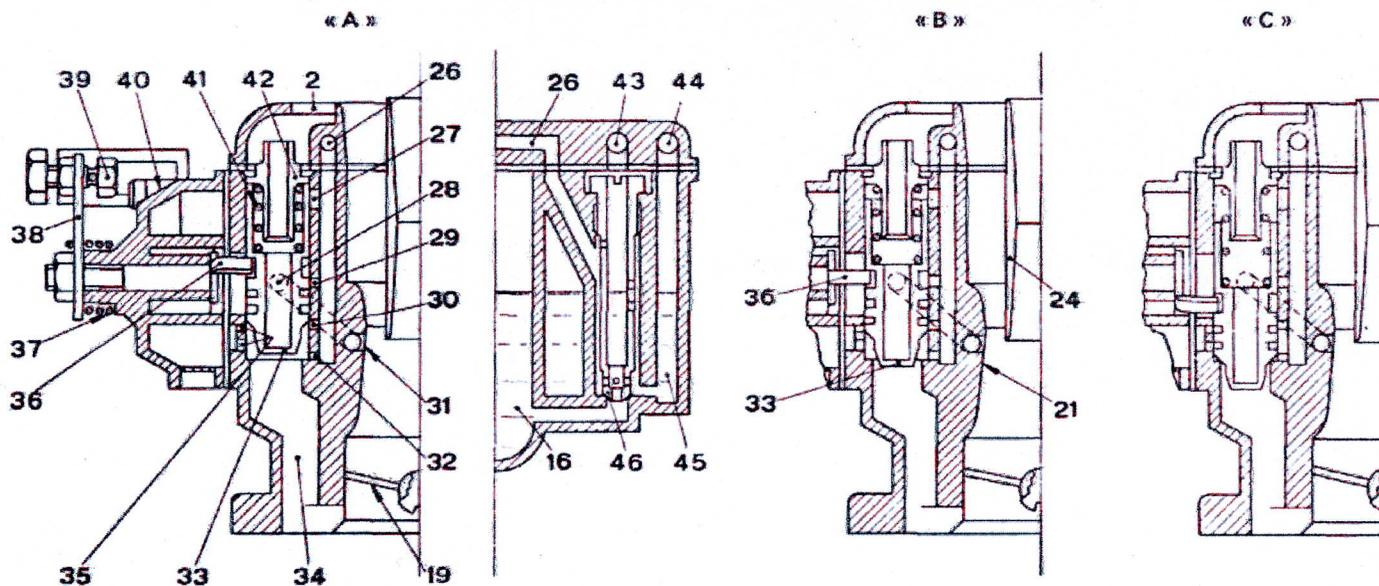

Fig. 40. - Diagrammatic section views of 26 IMB 4 Weber carburetor starting device.
The diagrammatic views in figs. 39 and 41 clearly show the operation of subject carburetors; in addition, the following is a detailed description of the starting device which is also illustrated in figures 40 and 42.
The starting device (fig. 40) is made up of valve (33) actuated by the lug of rocker (36) connected, through a suitable shaft, to control lever (38).
By pulling the device control to stroke end, through lever (38) and rocker (36), valve (33) is lifted from its seat and brought to the « fully open » position (diagram « A », figure 40).
After engine firing the device delivers a mixture whose fuel/air ratio is such as to permit regular running of engine while still cold. But, as the engine warms up, this mixture would be excessive and too rich; therefore, it becomes necessary to exclude gradually the device as the engine is reaching the rated operation temperature. During this maneuver, valve (33) slowly uncovers hole (27) which permits a greater amount of air to enter through spring guide hole (42) (to weaken the mixture) while, by closing progressively holes (30) and (32) and air holes (35) also the amount of mixture is reduced (see diagram « B », fig. 40).
When the starting device is excluded, valve (33) covers also hole (29) and prevents the entrance of mixture (diagram « C », fig. 40).
Cold start: fully throw in the device (position « A », figs. 40 and 42); after engine fires push the control part way in.
Warm starts: throw in the device only partially (position « B », figs. 40 and 42).
During engine warming-up period, even with car running, push home gradually the starting device lever through successive stages so as to supply the engine with a supplementary amount of mixture as strictly necessary for a regular and smooth engine operation (position « B », figs. 40 and 42).
As soon as the engine has reached the rated operation temperature, exclude completely the starting device by bringing the control lever to position « C », (figs. 40 and 42).